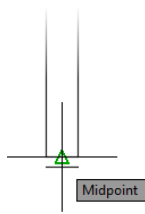

FIGURE 4.63: Using the Midpoint osnap to select the start point of the line
6. Place the cursor near the midpoint of the upper doorjamb line and notice that the marker, now a triangle, appears when your cursor is in the vicinity of the midpoint (see Figure 4.63).